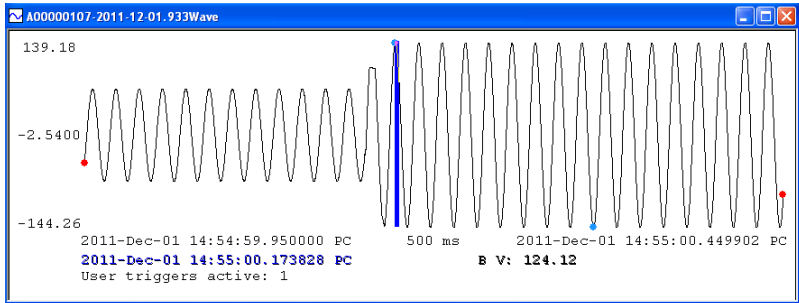

Figure 5.18: Downloaded Event Waveform
**Event Time Tracking.** See event wavefore in Figure 5.18 below. Note that the actual event time appears below the dark vertical cursor in the middle of the waveform.